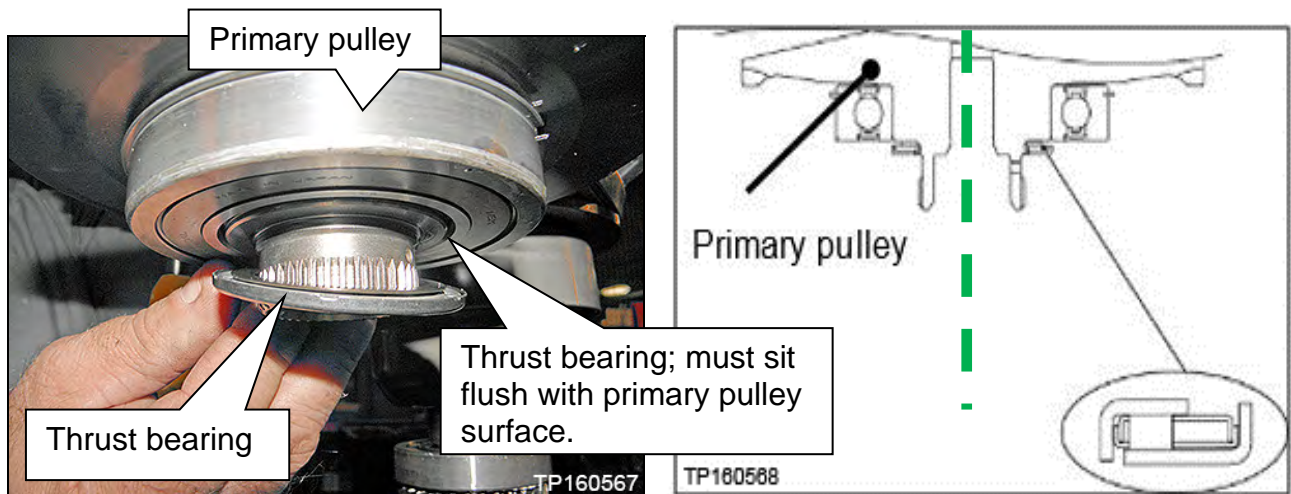

Figure 27F
23. Install the original thrust bearing on the primary pulley of the new sub-assembly part (Figure 27F).
**CAUTION:** The thrust bearing has two sides. Reference Figure 27F for bearing orientation.